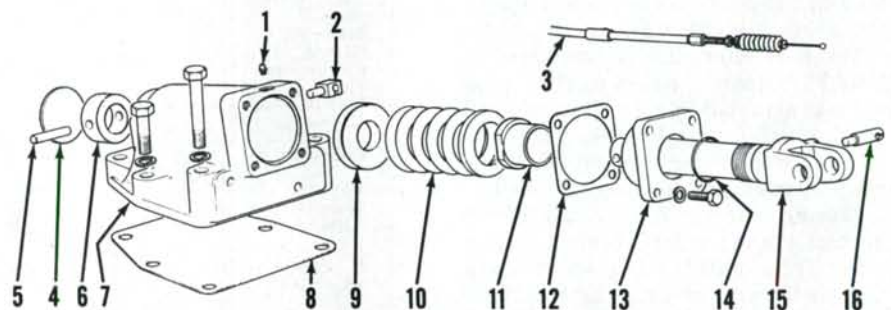
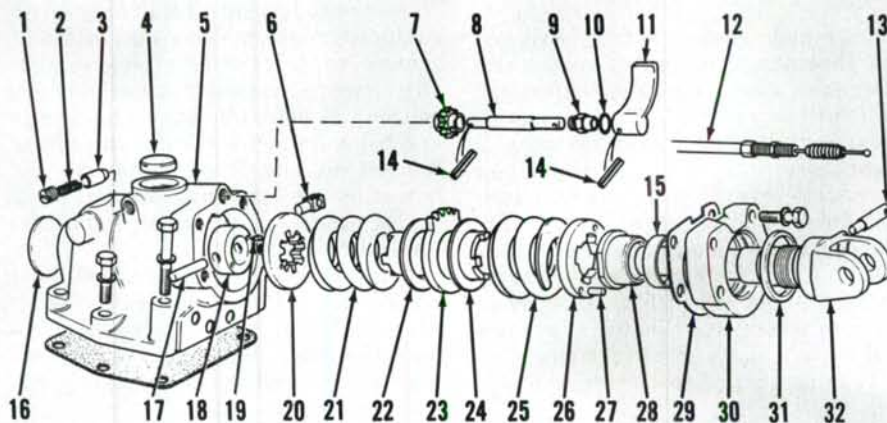

Fig. 275—Exploded view of single rate draft sensing unit used on some models.
Fig. 276—Exploded view of selective rate draft sensing unit used on some models.
rate sensing unit (Fig. 275) or a selective rate sensing unit (Fig. 276). Sensing unit function is to maintain a set draft load by varying operating depth of a ground engaging implement. Resistance created from pulling implement through the ground is transmitted through hitch upper link to draft sensing unit. This resistance causes movement of draft sensing spring which is relayed through linkage to selectamatic valve control spool. Movement of control spool will cause lift linkage to raise, lower or stay in position in accordance with amount of resistance causing spring movement.
345. SINGLE RATE SENSING UNIT. To remove, disconnect draft sensing cable (3—Fig. 275). Remove top link from sensing unit. Remove mounting bolts from hydraulic remote coupler bracket. Remove mounting bolts retain-
To disassemble, remove plug (4—Fig. 276) from top of housing and move selector lever (11) so it points towards top of housing. Remove end plate (30) mounting bolts, then pull shaft assembly out of housing. Drive pin (17) out of collar (18), then slide parts off shaft. Secure sleeve (28) in a vise, then turn shaft counterclockwise. Note that shaft will be tight as Loctite is applied to threads on assembly.